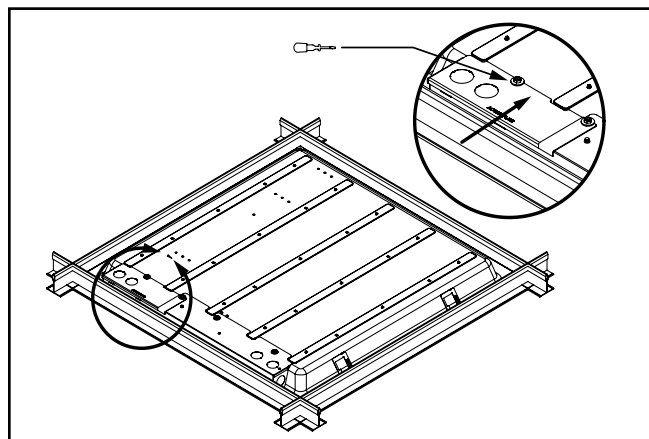

Figure 6.
- Tuck all wires and wire nuts into the fixture junction box, replace electrical access plate, and snap securely into place (Fig. 6).